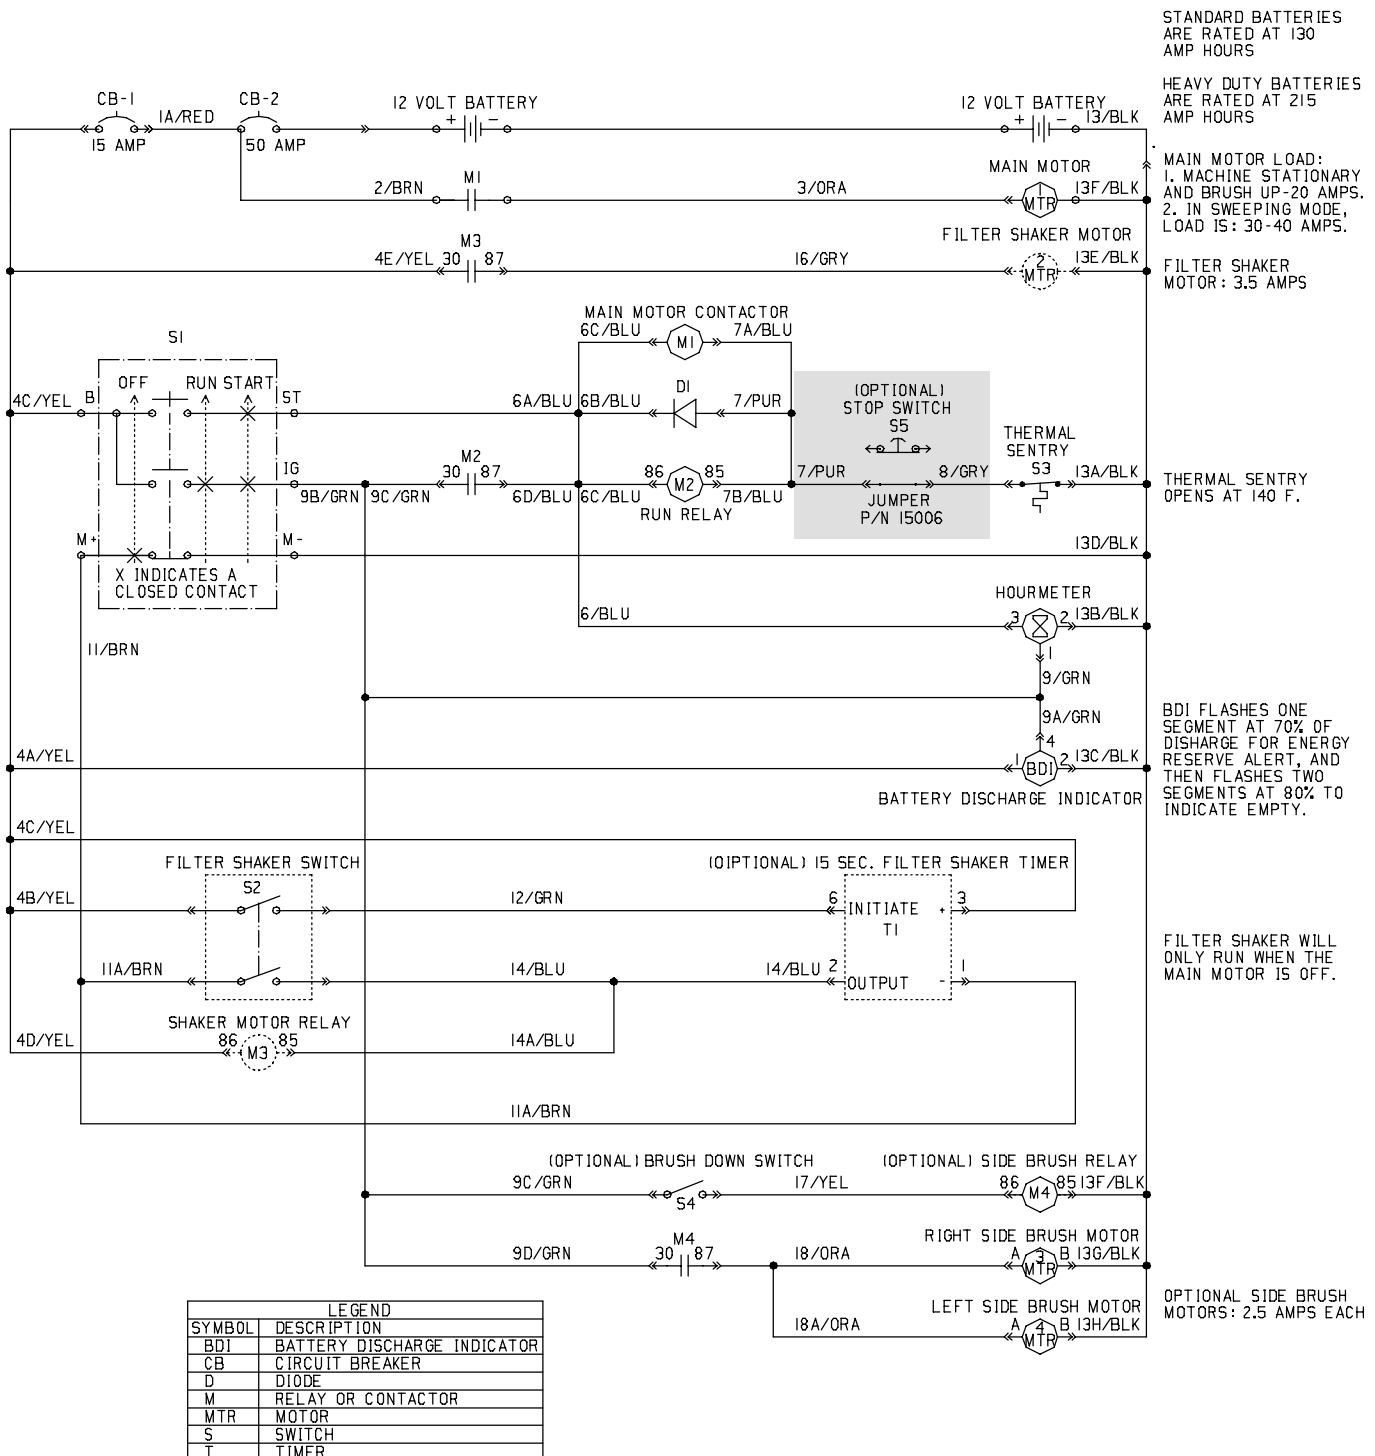

FIG. 1 - Electrical Schematic
(Refer to FIG. 1 and 2)
4. Locate the 7/Purple and 8/Gray wires connected by the jumper lead. Remove and discard the jumper. (Refer to FIG. 1)
5. Connect the wires to the new installed switch. (Refer to FIG. 1)